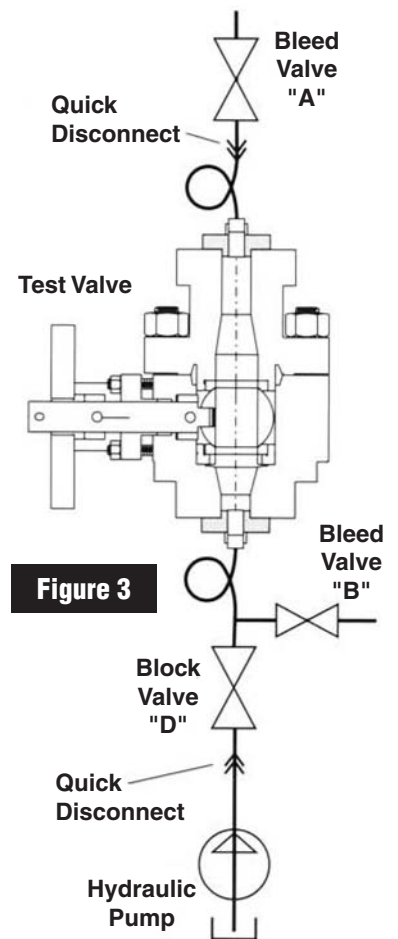

Figure 3
1. Install blind flanges on both ends of valve. Connect hydrostatic pump with block and bleed valves (See Figure 3).